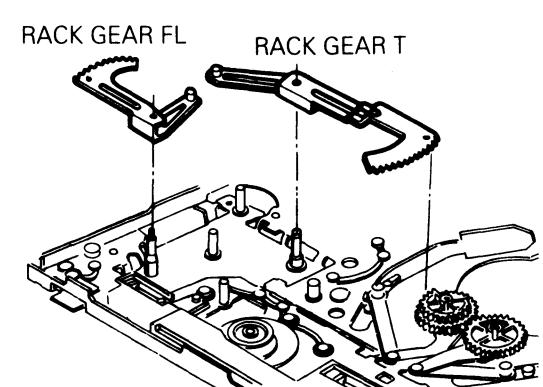

Fig. B-24-3 Rack Gear F.L./Rack Gear T
- 3) Remove the Rack Gear F.L.(Fig. B-24-3)
- 4) Remove the Rack Gear T.(Fig. B-24-3)